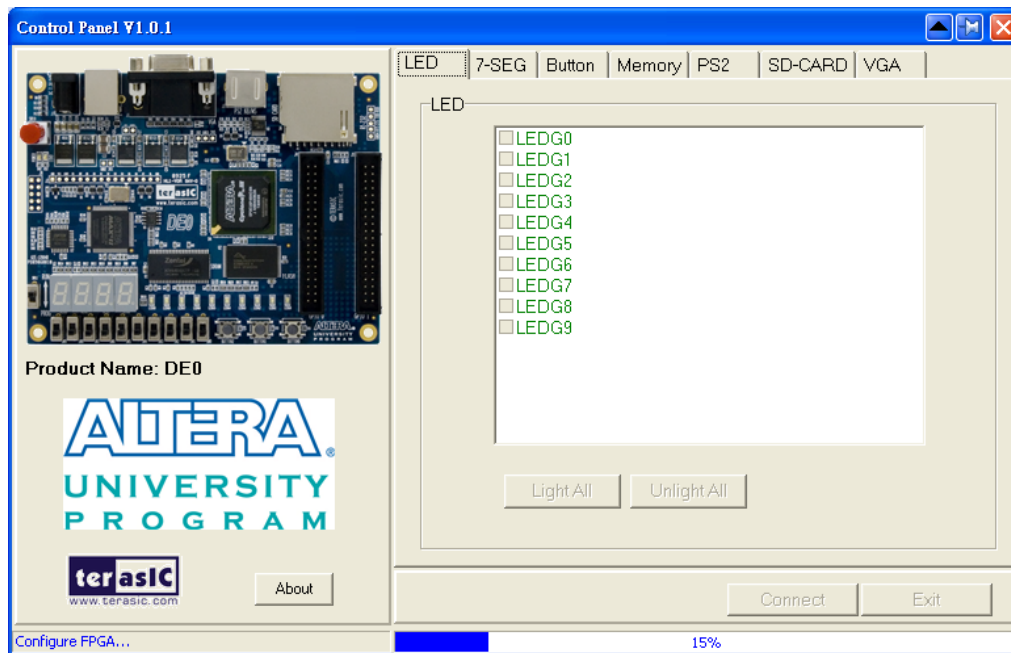

Figure 3-1. The DE0 Control Panel.
4. Start the executable *DE0_ControlPanel.exe* on the host computer. The Control Panel user interface shown in Figure 3-1 will appear.